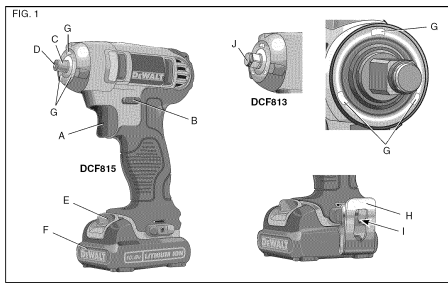

FIG. 2
#### Charging Procedure (Fig. 2)
- Insert the battery pack (F) into the charger, as shown in Figure 2, making sure the pack is fully seated in charger. The red (charging) light will blink continuously indicating that the charging process has started.
Procédure de charge (Fig. 2)
2. Insérez le bloc-piles (F) dans le chargeur, comme illustré en figure 2, en vous assurant qu'il y est correctement calé.